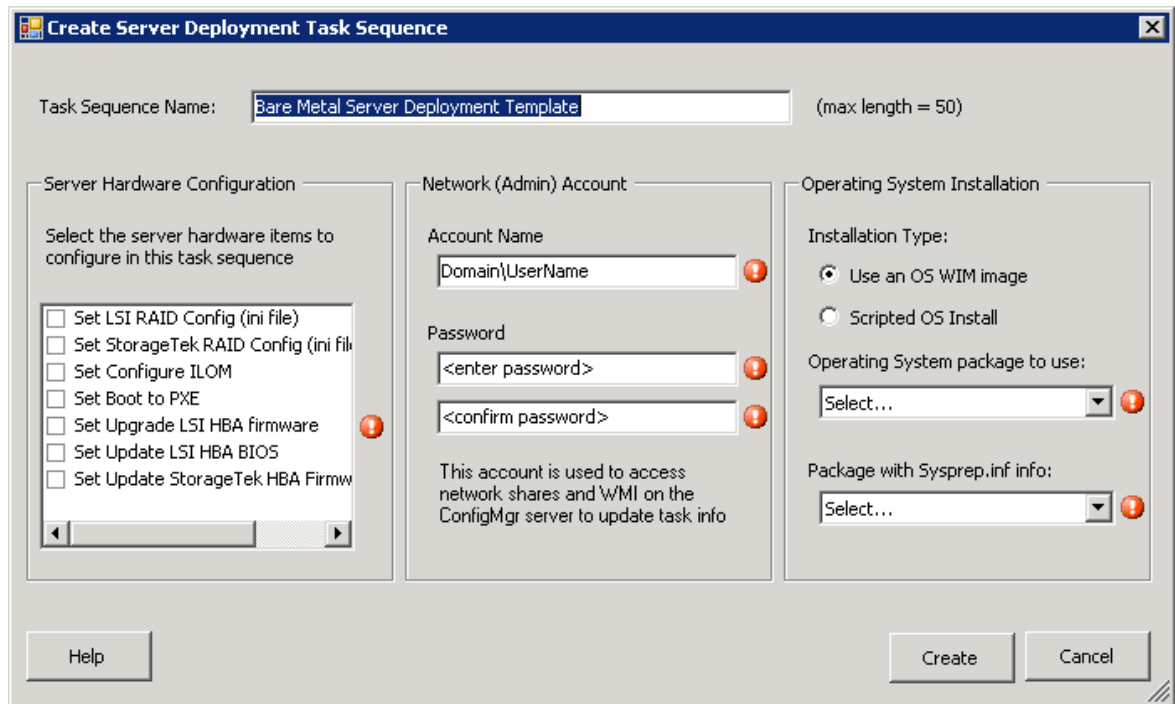

Figure 19: Create Server Deployment Task Sequence Wizard
The task sequence editor provides an interface for you to create task sequences using the Sun DP actions. As seen in Figure 19, the task sequence editor is split into three columns - Server Hardware configuration, Network (Admin) Account and Operating System Installation.
2. Select the Sun Custom hardware configuration tasks that need to part of task sequence that is being built. Under **Server Hardware Configuration** (Figure 19) check the box next to the appropriate Sun Custom hardware configuration task(s).